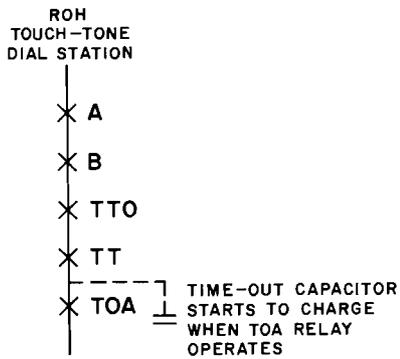

Fig. 7 — 6A KTS, Line Seizure
**5.05** Sequence charts are furnished in Fig. 7, 8, 9, and 10. For more detailed information refer to CD- and SD-69447-01.